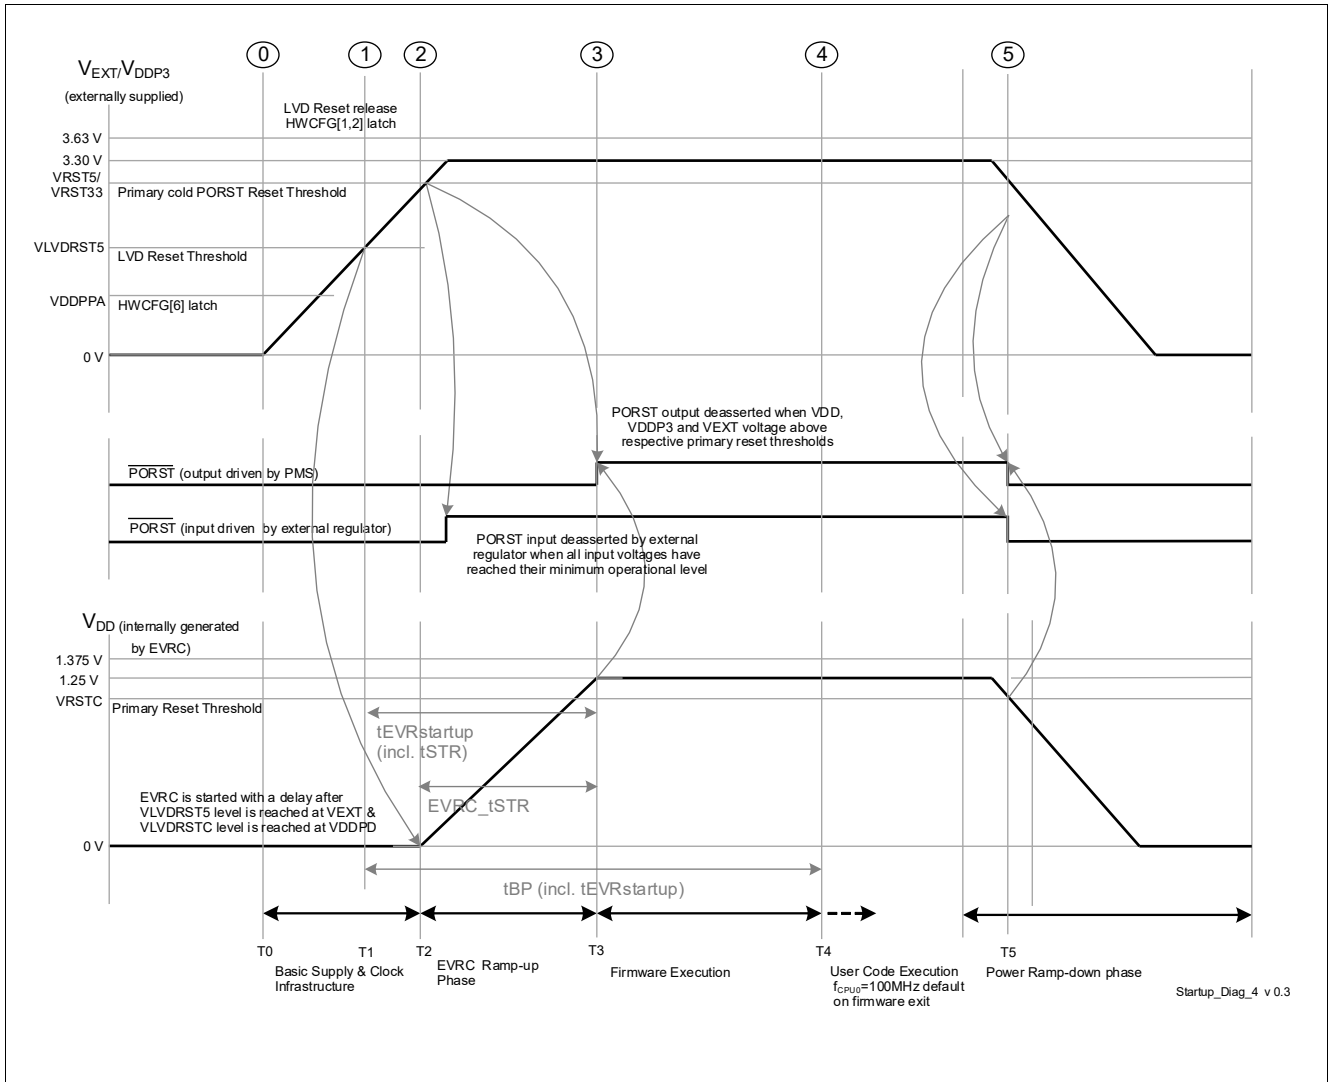

Figure 3-4 Single Supply mode (e) - (VEXT & VDDP3) 3.3 V single supply
- The power sequence as shown in **Figure 3-4** is enumerated below